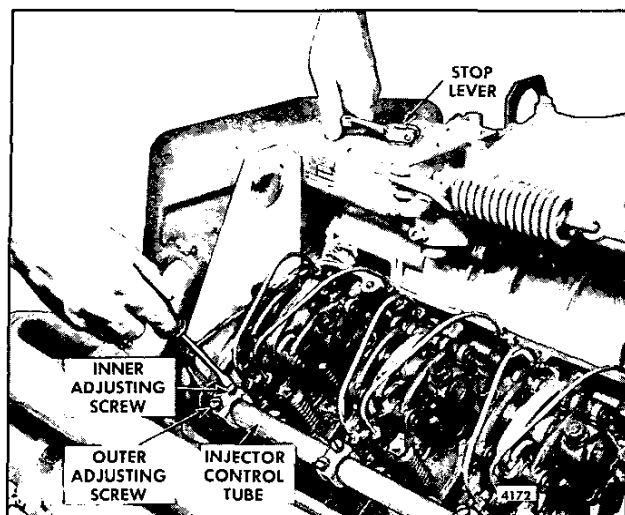

Fig. 12 – Positioning No. 1L Injector Rack Control Lever
4. Move the stop lever to the *run* position and hold it in that position with light finger pressure. Turn the inner adjusting screw of the No. 1L injector rack control lever down (Fig. 12) until a slight movement of the control tube is observed, or a step-up in effort to turn the screwdriver is noted. This will place the No. 1L injector rack in the *full-fuel* position. Turn the outer adjusting screw down until it bottoms lightly on the injector control tube. Then alternately tighten both the inner and outer adjusting screws.